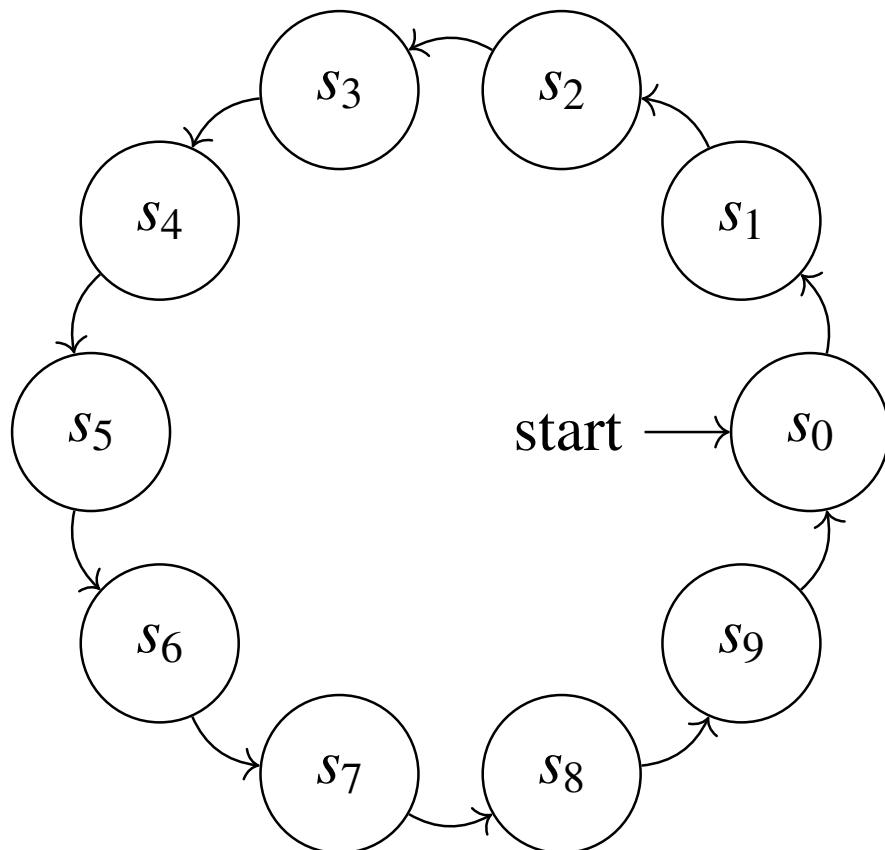

Fig. 6.1: FSM for the decade counter
1. Fig. 6.1 shows a *finite state machine* (FSM) diagram for the decade counter in Fig 5.2.  $s_0$  is the state when the input to the incrementing decoder is 0. The *state transition table* for the FSM is Table 3.4, where the present state is denoted by the variables  $W, X, Y, Z$  and the next state by  $A, B, C, D$ .
For the FSM in Fig 6.1, the number of states is 9, hence the number of flip flops required = 4